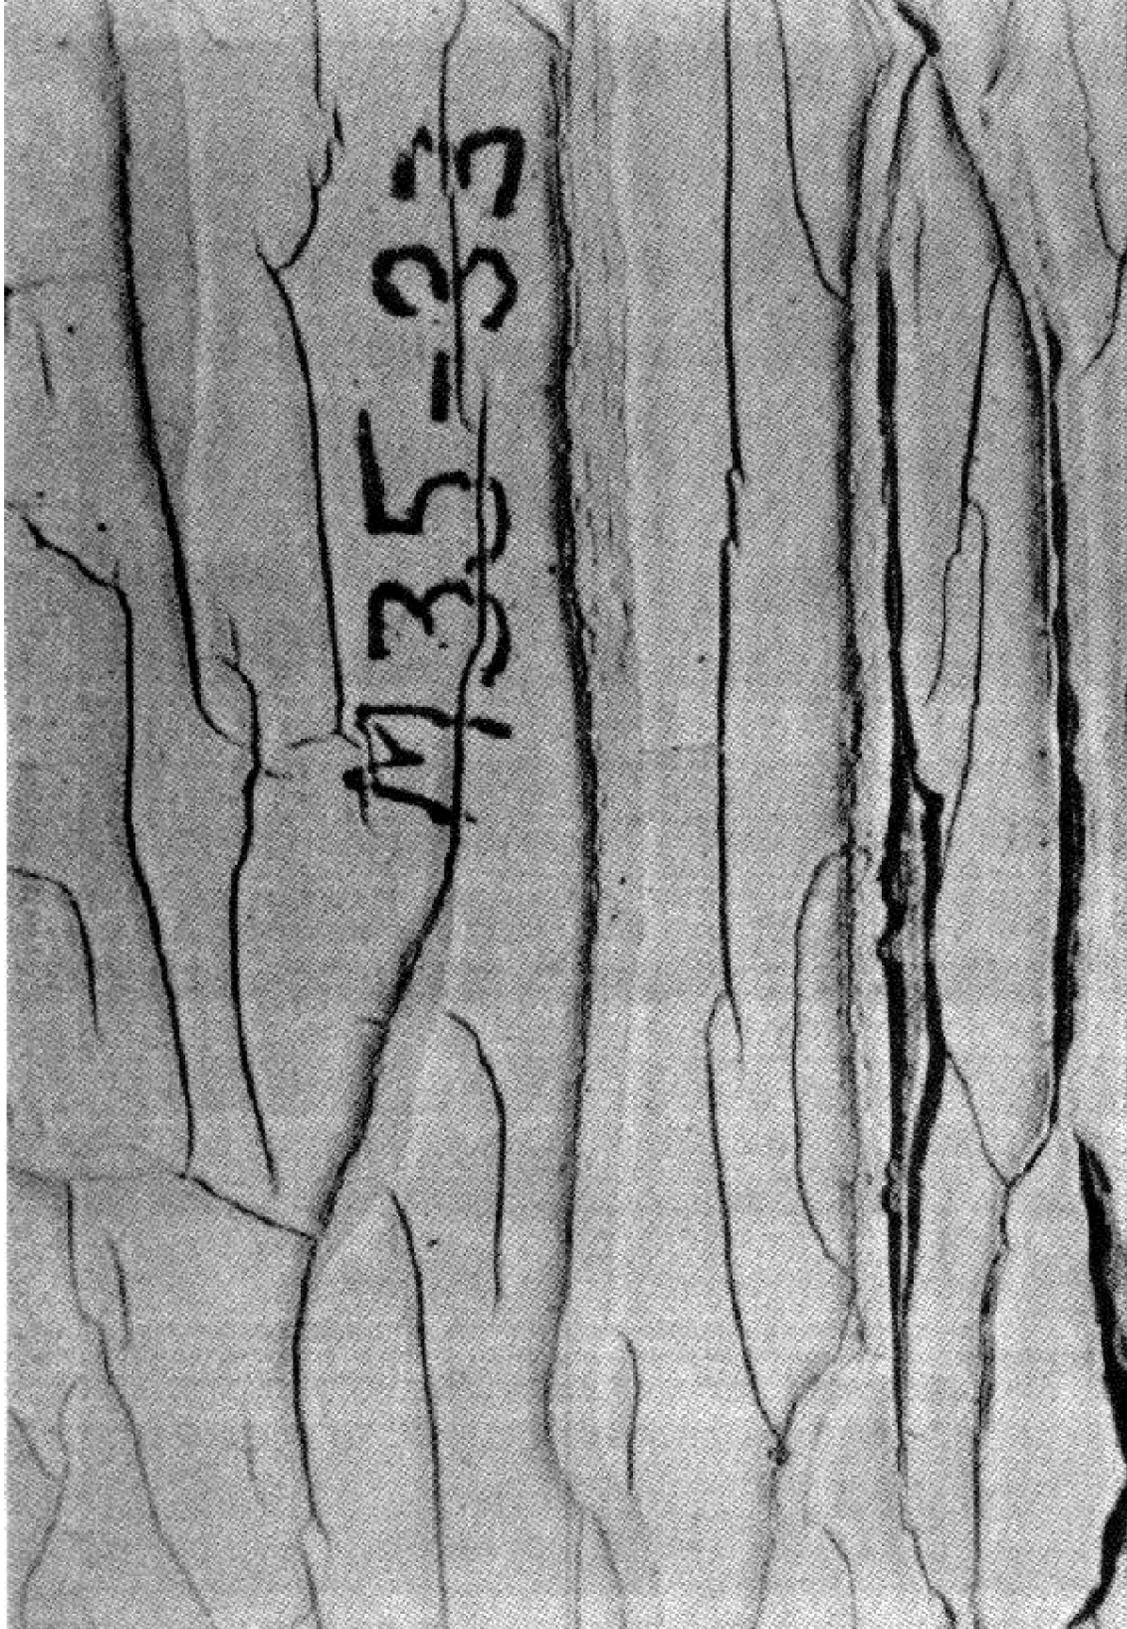
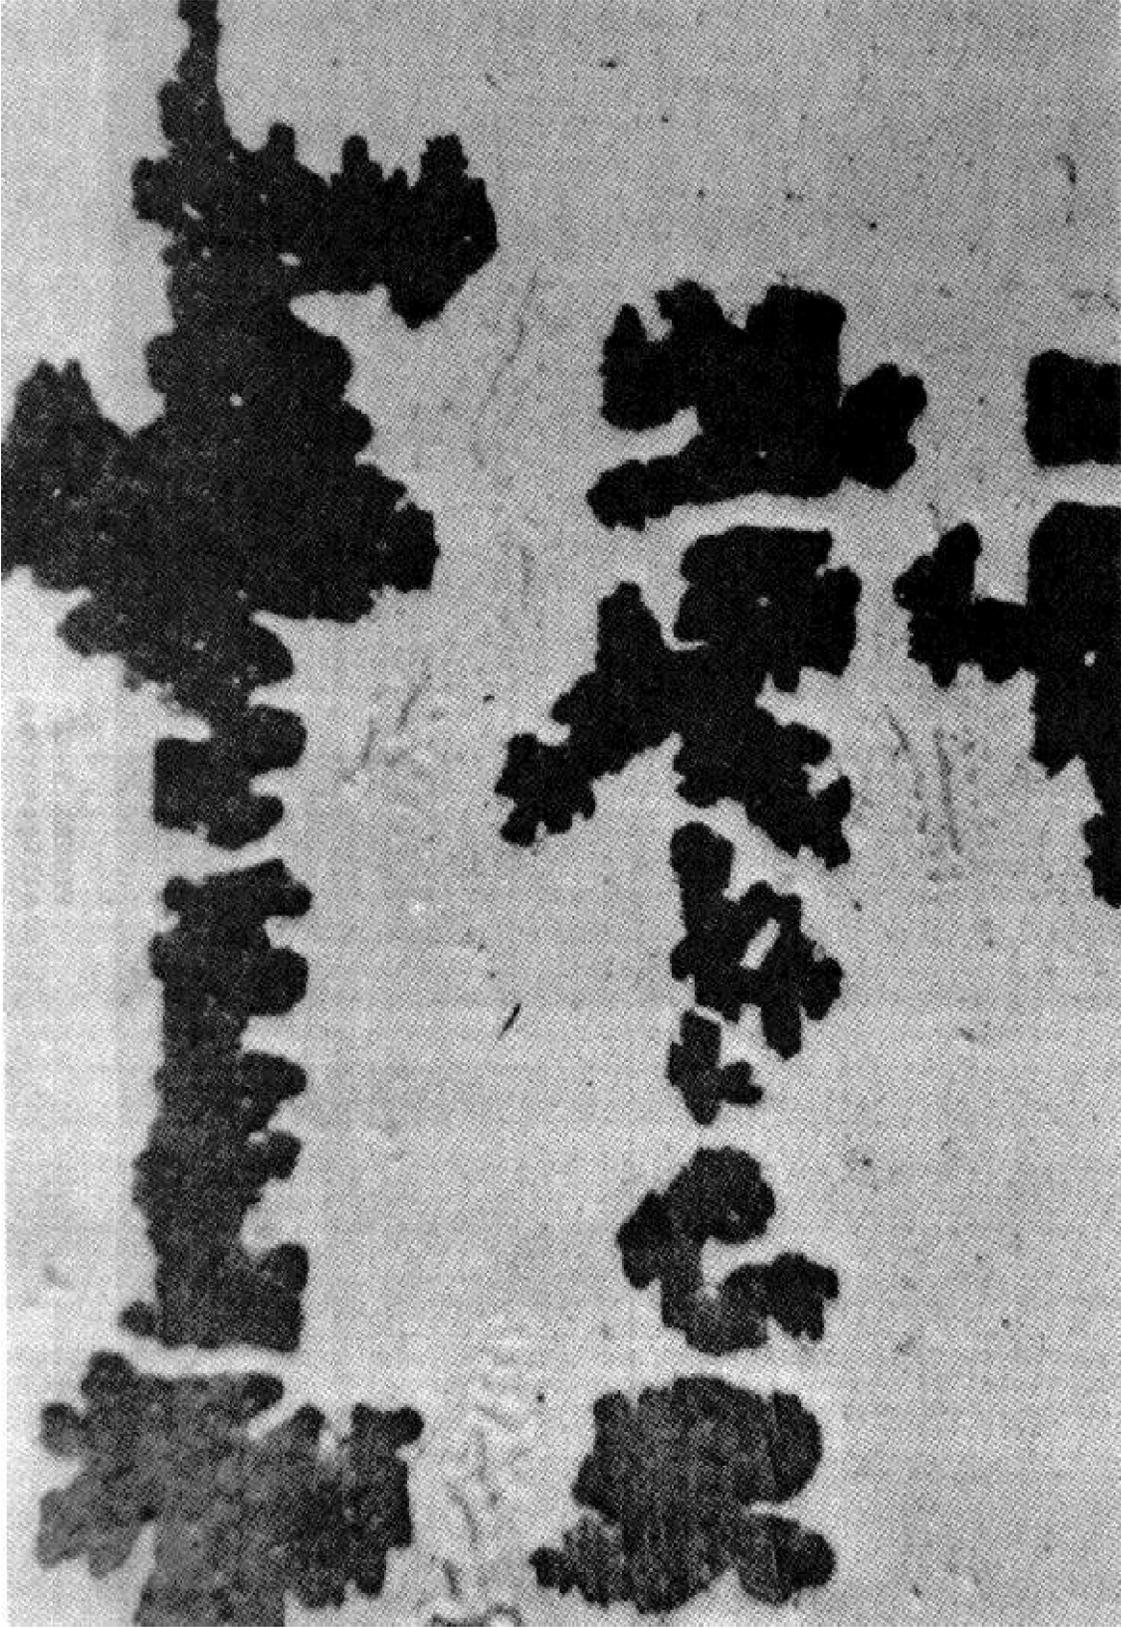

FIGURE 5-24
FIGURE 5-25
b. Alligatoring: Alligatoring describes a pattern in a coating which looks like the hide of an alligator. It is caused by uneven expansion and contraction of a relatively hard topcoat over a relatively soft or slippery undercoat. (See Figure 5-24). Alligatoring can be caused by:
- (1) Applying an enamel over an oil primer
- (2) Painting over bituminous paint, asphalt, pitch or shellac
- (3) Painting over grease or wax
c. Crawling: Crawling occurs when the new coating fails to wet and form a continuous film over the preceding coat. Examples are applying latex paints over high gloss enamel or applying paints on concrete or masonry treated with a silicone water repellent (See Figure 5-25.)